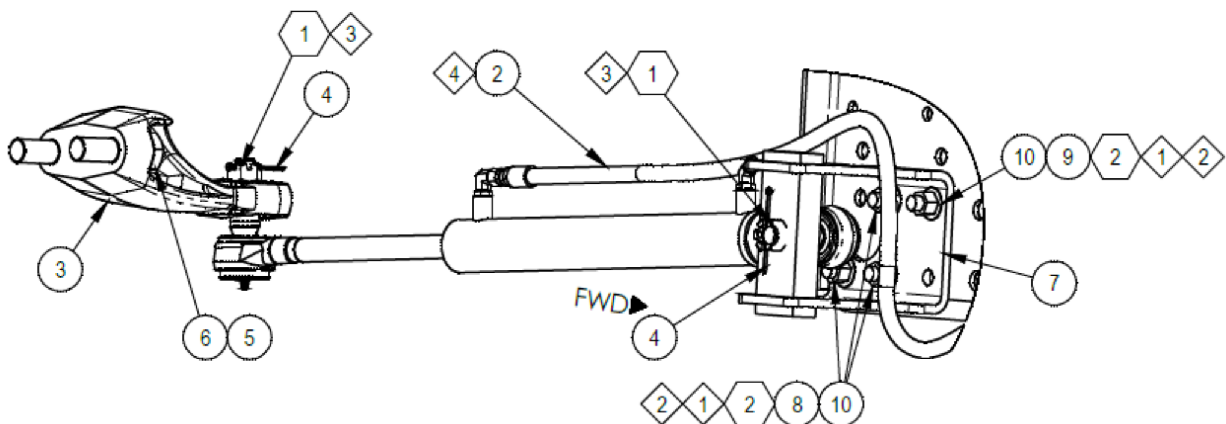

Figure 5.1
- a. Install new steering assist cylinder bracket part number 3161-KK1-001 (Item 7) using new bolts (item 8-9) and new nuts (item 10). Install bolts hand tight. Do not torque until after the steering assist cylinder is installed.
Note: Bolt item 9 is longer and must be installed in the location noted in Figure 5.1.
See Figure 5.1 and Table 6.1